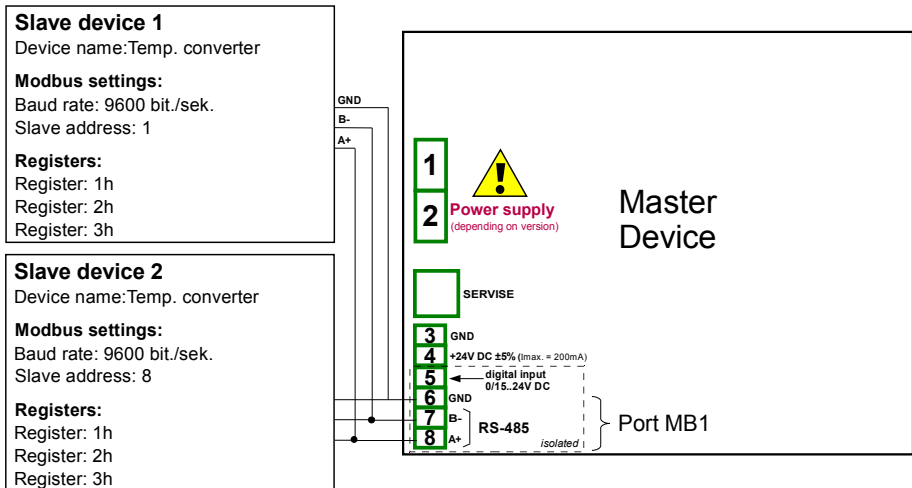

Fig. 7.129. Connection diagram for the Modbus port MB1
First configure the device then connect the SLAVE device to the MultiCon (in accordance with **Fig. 7.129**).
- using the arrows in upper right corner choose **Port number: 1 (MB1** in accordance with **Fig. 7.129**),